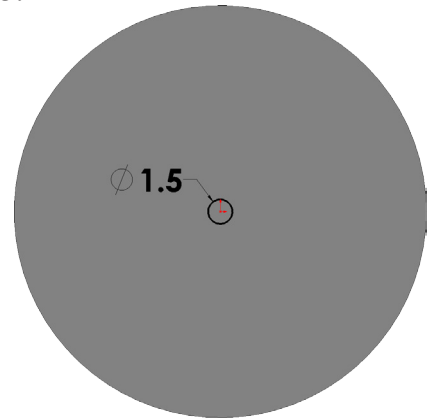

Fig. 13
Step 4. Click **Circle**  (S) on the Sketch toolbar.
Step 5. Draw a circle for the hole starting at the Origin , **Fig. 13**.
Step 6. Click **Smart Dimension**  (S) on the Sketch toolbar.
Step 7. Dimension **diameter 1.5**, **Fig. 13**.